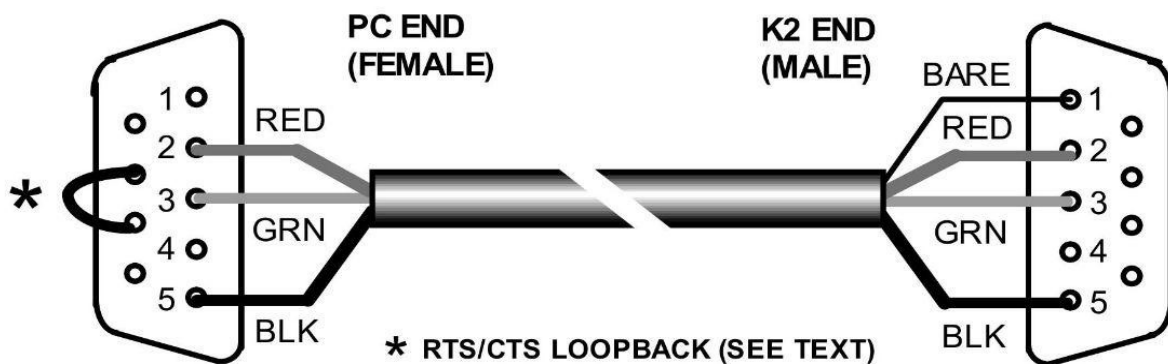

Figure 7
- Locate the DB9F (female) and DB9M (male) D connectors. **Arrange them as shown in Figure 7, with the female connector on the left and the solder cups facing up.**
- Each connector has a 5-pin row and a 4-pin row. Make sure the 5-pin rows are facing each other. Figure 7 shows how the two connectors will be wired in the following steps.
- As shown in Figure 7, pins 7 and 8 of the female connector can be wired together (using a discarded component lead) to provide RTS/CTS loop-back¹. Some application software requires this *hardware handshaking* between the computer and K2. We recommend that you make this connection, unless you're sure that your application software does not need it. Some programs use these lines for other functions, such as CW keying of the transceiver. (If you have an existing computer-control installation, check the present connector wiring to see if RTS/CTS loop-back can be omitted.)
- Solder the RED, GREEN, and BLACK wires of the PC end of the cable (the end with no shield wire) to the female connector. Refer to Figure 7.